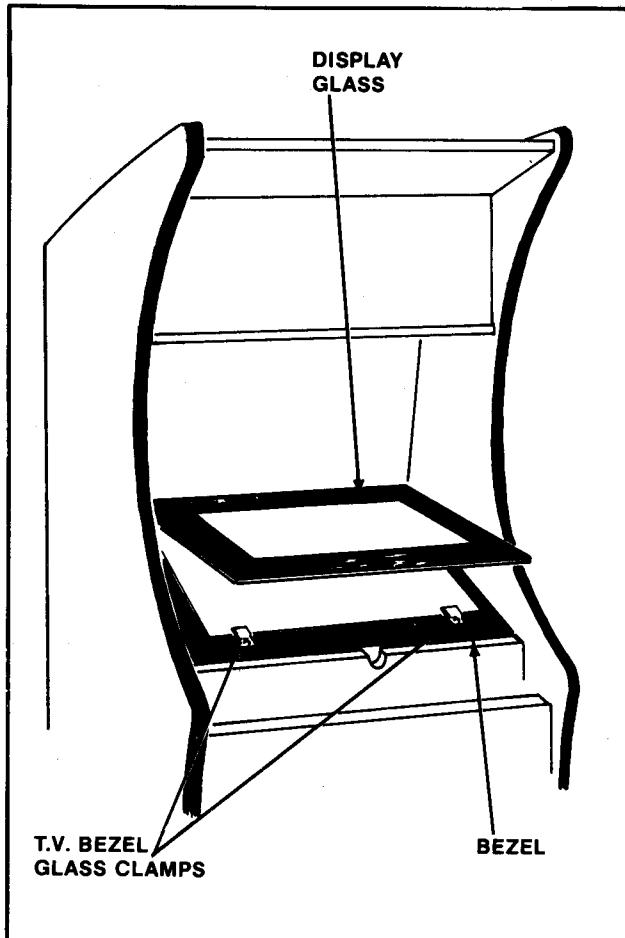

Figure 4-5 Removing Main Display Glass & T.V. Bezel — Upright
1. UPRIGHT MODEL: See Figure 4-5.